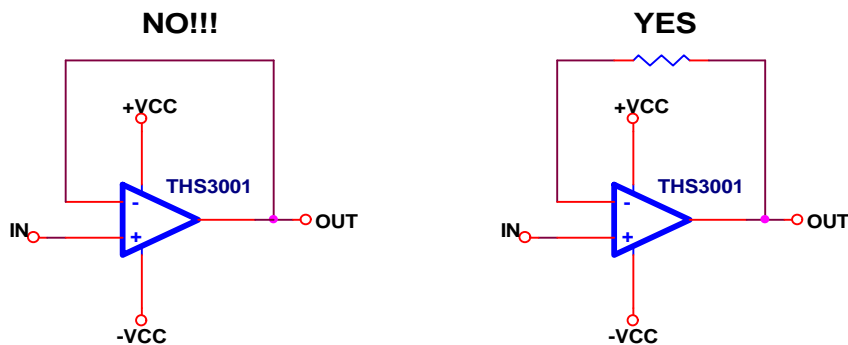

Figure 4. Use of a Current-Feedback Op Amp as a Unity Gain Buffer
- Do *not* use a current-feedback op amp as a traditionally configured unity gain buffer (output connected directly to inverting input)! Correct and incorrect unity gain buffers are shown in Figure 4: